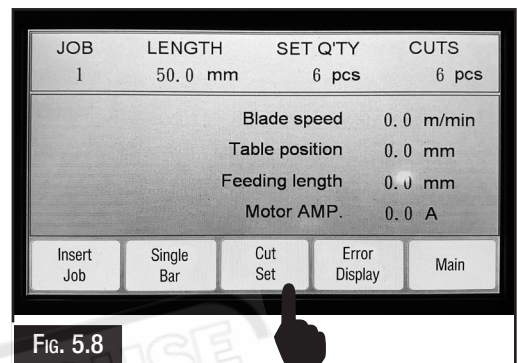

Fig. 5.8
4. To enter a program, press the “Cut Set” button on the touch screen controller. The controller allows for 20 different programs to be entered. (Fig. 5.8)